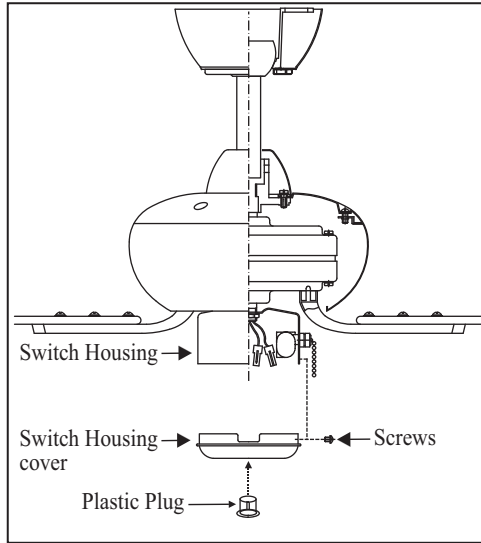

Figure 17
2. Attach the plastic plug to the switch housing cover. (Fig. 17)
3. Holding the switch housing cover under your fan, snap together the wire connection plugs. (Fig. 17)
4. Install the switch housing cover to the switch housing with screws provided. (Fig. 17)